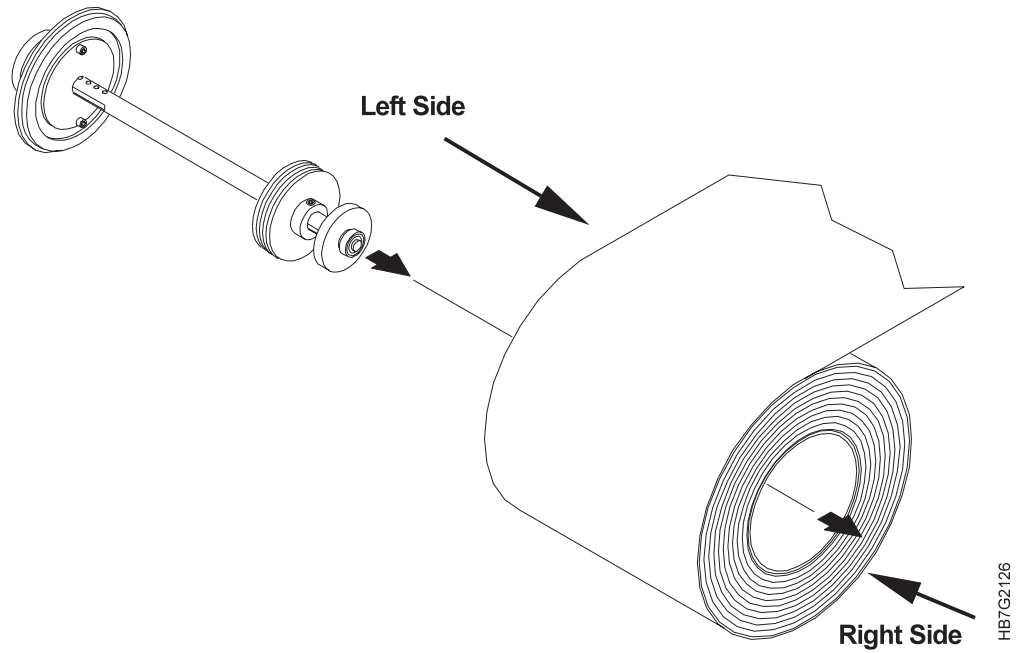

Figure 197. Inserting the Paper Roll Axle
- 7 As you face the roll at the unwinding side, insert the axle from left to right through the core of the roll, as shown in Figure 197 on page 282.